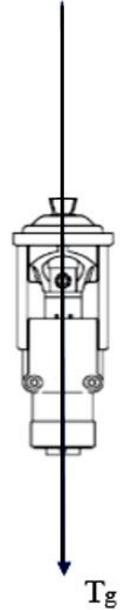

Fig. 4
c) The weight line should pass through the centerline of the knee in the Coronal or M/L plane (Fig. 4). Excessive outset or inset will put undue stress on the knee joint.